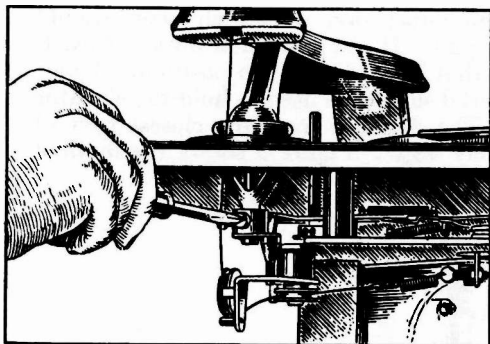

Figure 5—Adjusting position of tone arm
- (a) **Improper Tone Arm Setting.** Loosen the set screws as shown in Figure 5. With the mechanism out of its cycle, press the locating lever at a point near the flat spring until the lever strikes the stop screw. Holding the locating lever, Figure 17, in this position, move the front portion of the trip lever, Figure 15, until the pin against which the flat spring presses, is making contact with the locating lever. Holding the two levers in this position, move the pickup arm until the needle is $\frac{1}{16}$ " from the first groove of a standard 10-inch record. Now retighten the two set screws shown in Figure 5.